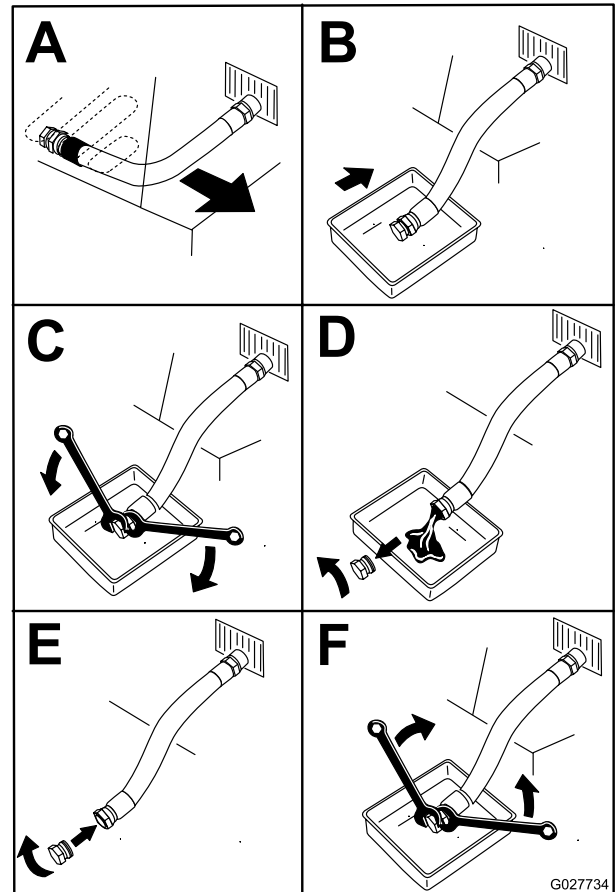

Figure 58
5. Drain the oil from the engine (Figure 58).